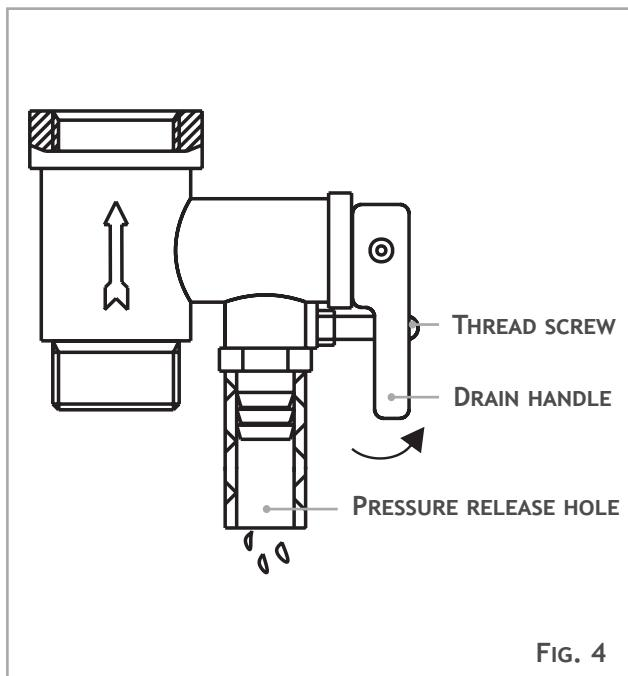

FIG. 4
9. IN ORDER TO DRAIN AWAY THE WATER INSIDE THE INNER CONTAINER, IT CAN BE DRAINED AWAY FROM THE EXIT PORT (TWIST THE THREAD SCREW OF THE EXIT PORT OFF), AND IT ALSO CAN BE DRAINED AWAY FROM THE ONE-WAY SAFETY VALVE (TWIST THE THREAD SCREW OFF THE ONE-WAY SAFETY VALVE, AND LIFT THE DRAIN HANDLE UPWARDS).(SEE FIG.4)